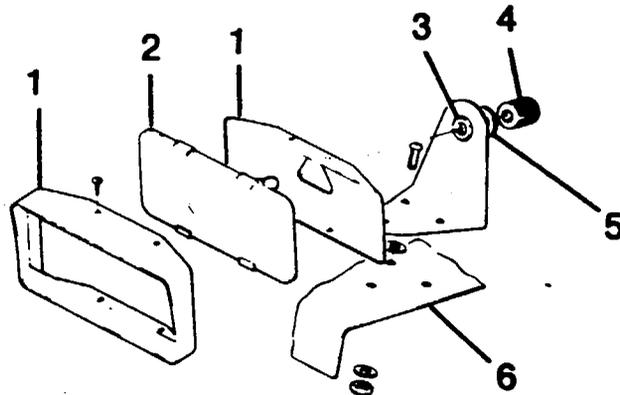

Figure 3-10. Rear View Mirror Installation
- 3-56. **REAR VIEW MIRROR.** (172 AND F172 SERIES ONLY.) (See figure 3-10.) A rear view mirror may be installed on the cowl deck above the instrument panel. The figure illustrates details for removal and installation of rear view mirror.